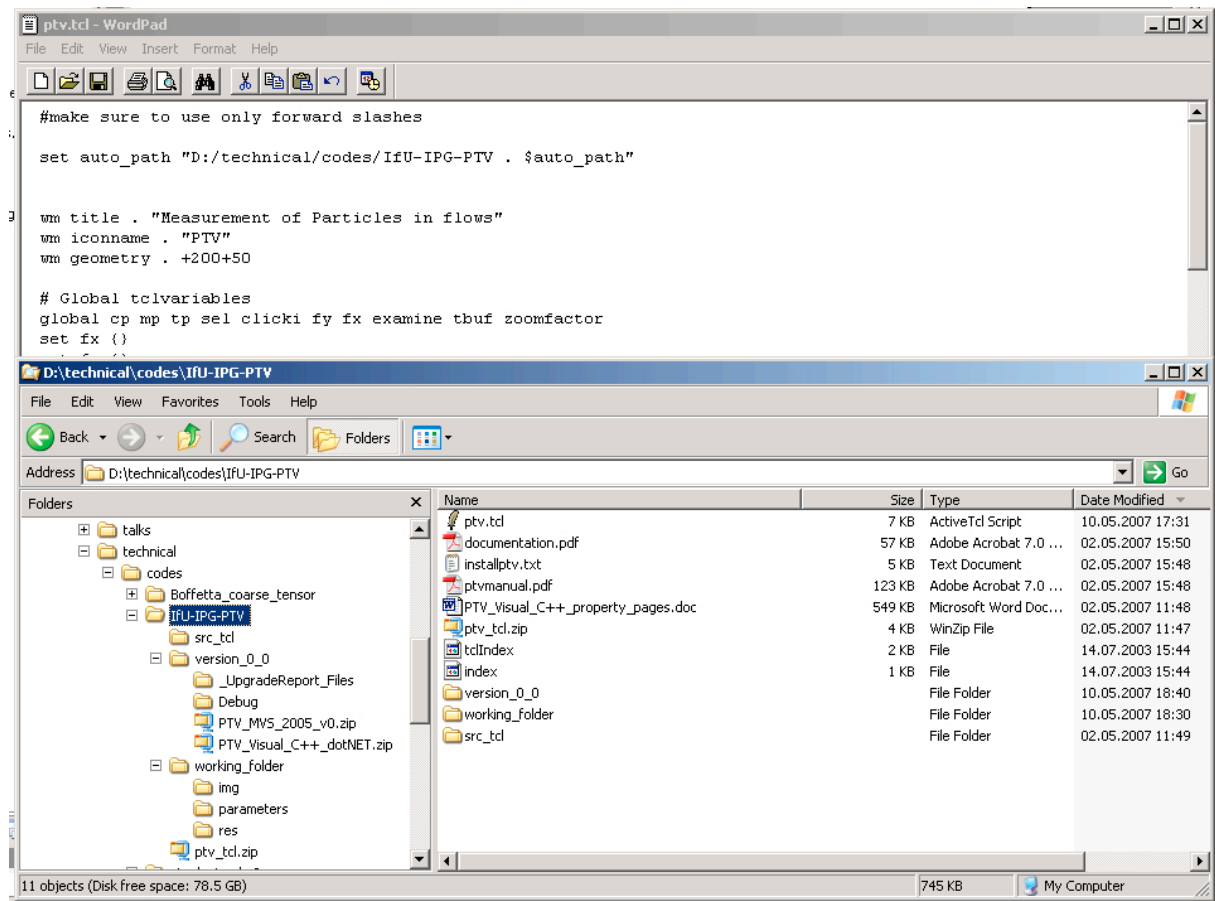

Figure 1
- The file ptv.tcl is included; edit the second line (shown in **fig1**). For example, if you decompress it in E:\test then the second line should be E:\test\..... (don't touch the rest, plz)